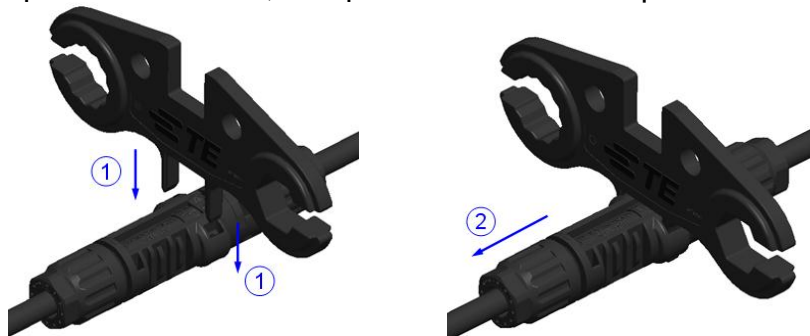

Figure 13
1. The locking mechanism is opened by depressing the latches with hand application tool (**PN 1971903-1**) as shown in **Figure 13**.